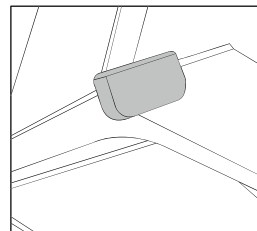

Figure 6
15. Finally, attach the corner bumpers, which help avoid head collisions, on the hood corners as shown in (Figure 6). Clean fingerprints from the surface of the range hood. Installation is complete.